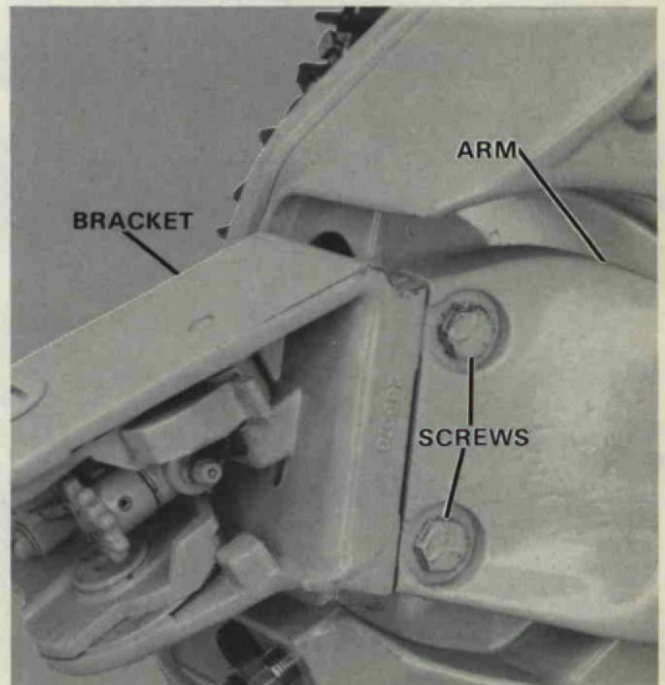

Figure 2. Disconnecting Steering Arm from Bracket.
A. Remove two (2) cap screws and lockwashers securing steering handle bracket to steering arm. Figure 2.